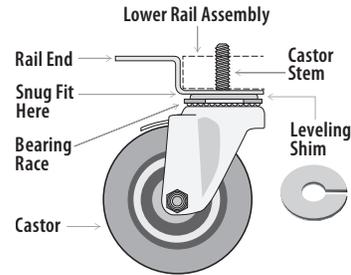

Fig. 4. Castor diagram.
3. Thread the castors into the frame rail or appliance bottom. See figs. 4 and 5.